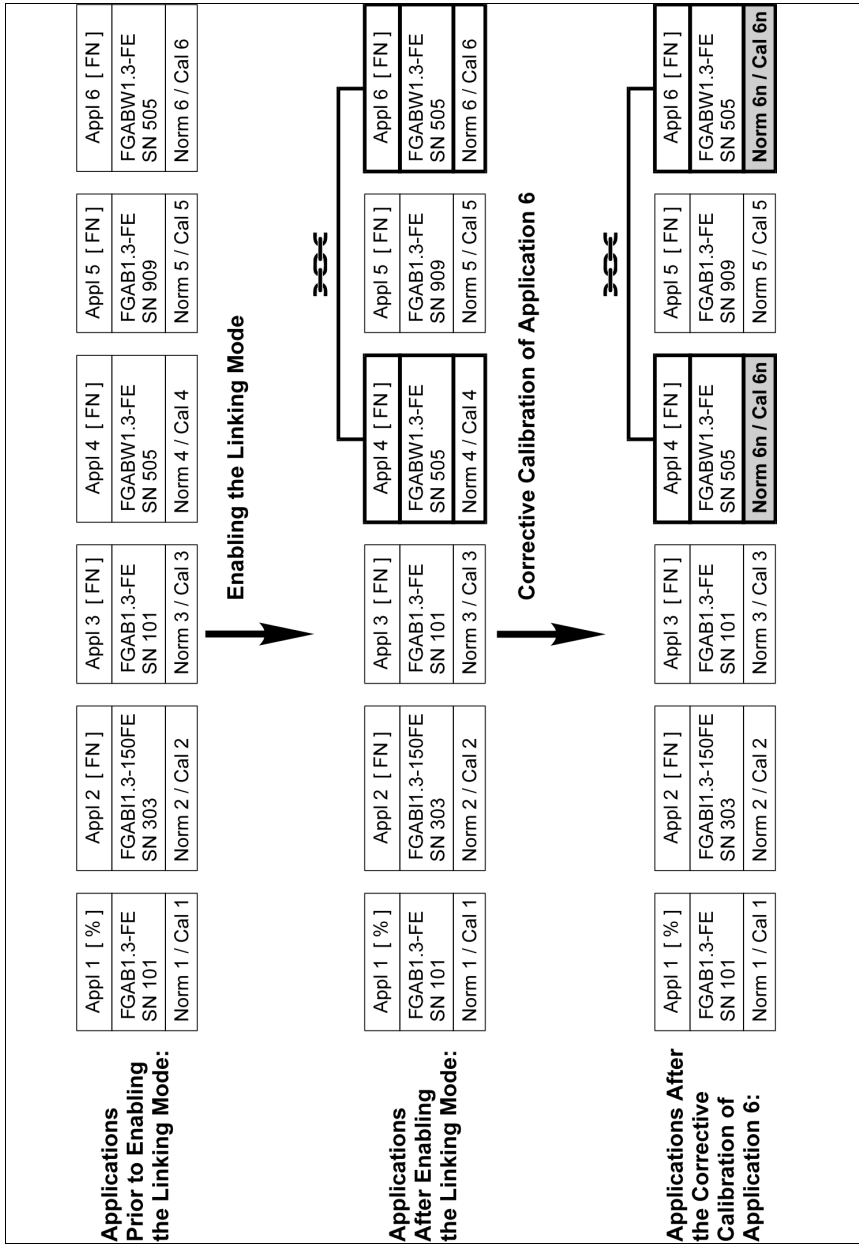

Fig. 5-3 Example for linking of applications
- Because Applications 4 and 6 are linked with each other, after the corrective calibration of Application 6, the new corrective calibration (Norm 6n, Cal 6n, grayed out in Fig. 5-3) will be stored in Application 4 as well. The previous normalization and corrective calibration (Norm 4/6 and Cal 4/6) will be overwritten.